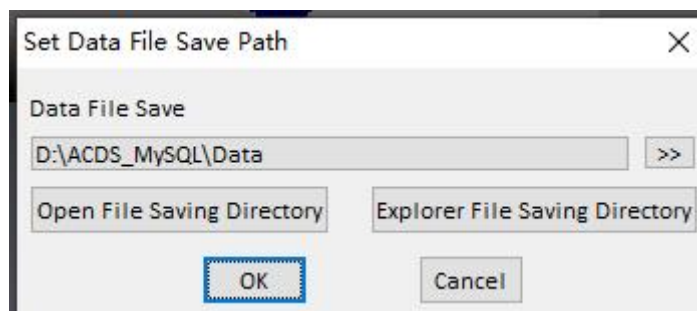

Figure 1-4 "Set data file save path" window
2. Set File Saving Path: used to manage the save path of data files, as shown in Figure 1-4.